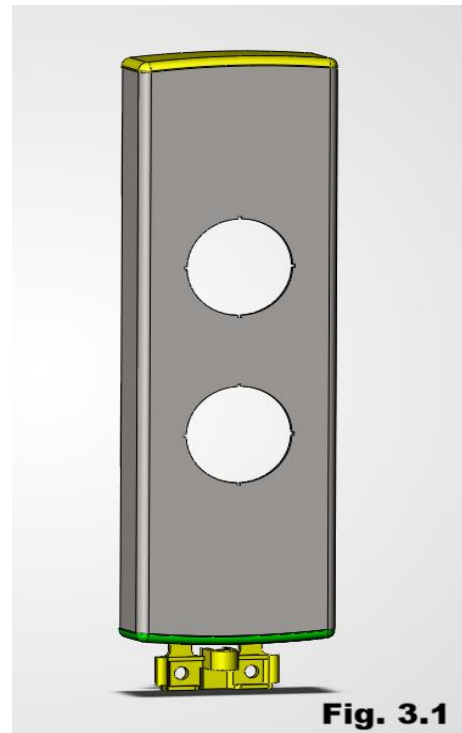

Fig. 3.1 — Fixture temporarily supported in position
3. Check that the connection is secure: the fixture must remain supported without any external support (Fig. 3.1).